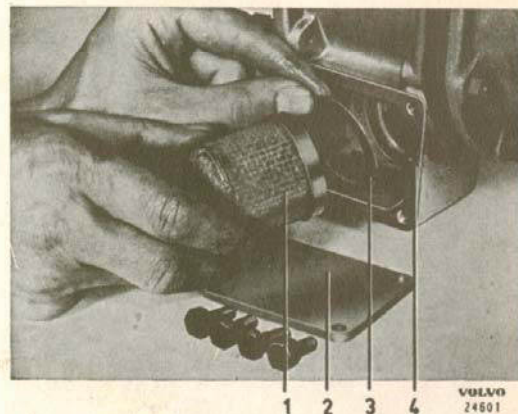

Fig. 3-41. Removing the oil strainer
(1), see Fig. 3-41. Clean the oil strainer in gasoline or white spirit. Blow dry with compressed air.
2. Check that the gasket (3) is intact and place it in position. Fit the oil strainer, new gasket (4) and cover.